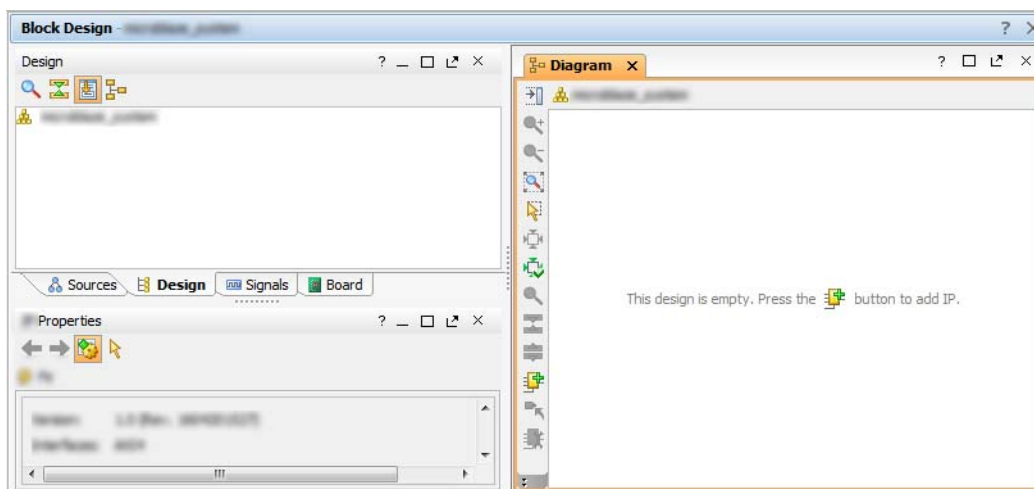

Figure 5-6: Initial View of the Vivado IP Integrator Showing an Informational Message
2. Open the IP integrator workspace, as shown in Figure 5-6.